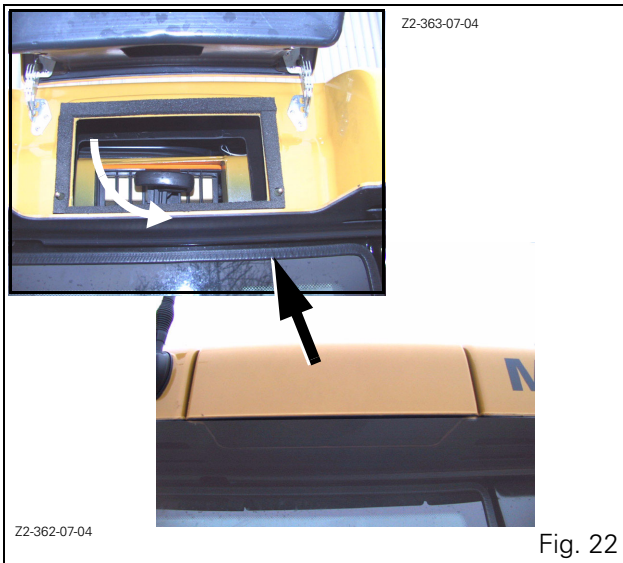

Fig. 22
1. To gain access to the cab air filter, open the hatch on the left-hand side of the cab roof (Fig. 22).